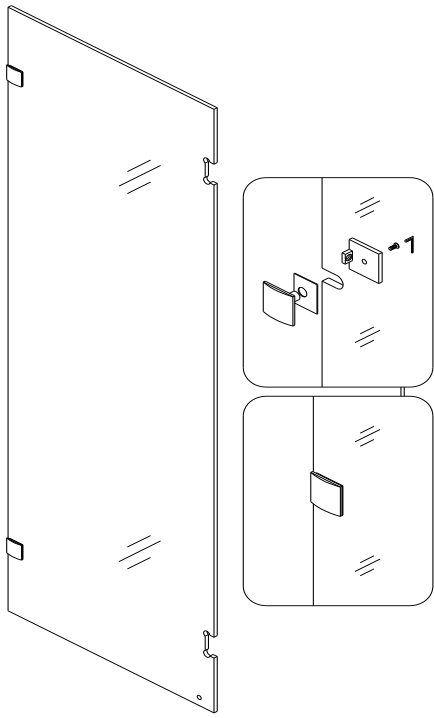

fig. 1
1. Take out **Stationary glass panel (01)** from the package and find the **Wall Brackets (06)**. Attach **Wall Brackets** to the glass panel. Note that the parts of the **Wall Brackets** with the mounting holes should face inward so that when glass panels are in place, mounting bolts are only visible from the inside. See fig. 1 for details.